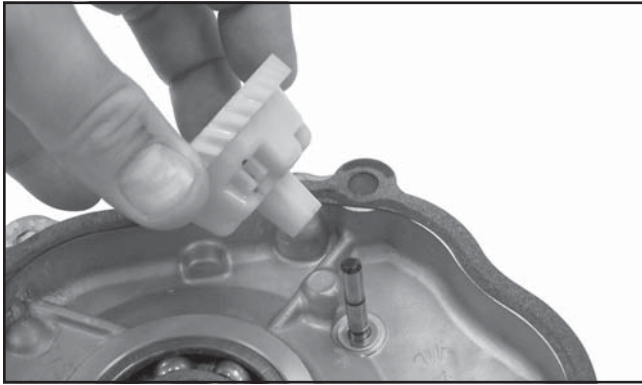

Figure 9-58. Removing Governor Assembly Cup and Washer.
1. The governor gear is located in the closure plate. To remove the governor gear, pull the governor gear off the shaft. See Figure 9-58.